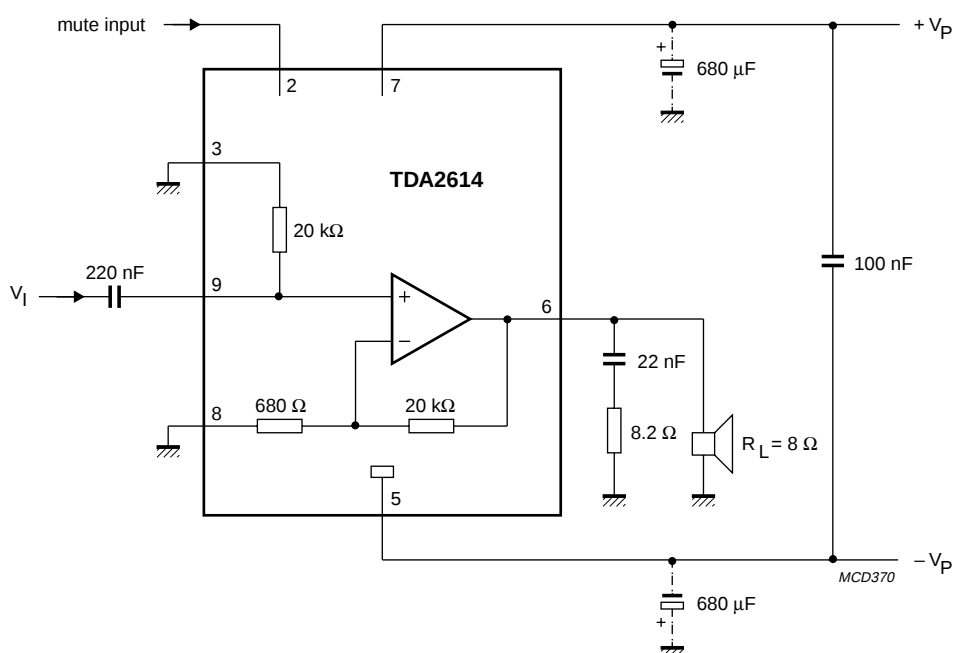

Fig.4 Test and application circuit with symmetrical power supply.
- $\pm V_P = 12$ V; $R_L = 8$ Ω ; $T_{amb} = 25$ °C; $f = 1$ kHz; symmetrical power supply $I_{MUTE} < 30$ μ A. See Fig.4